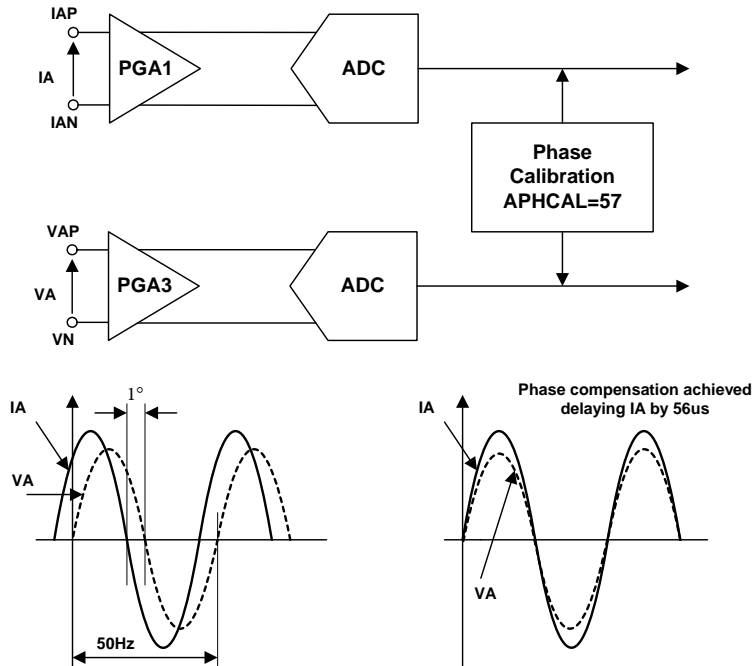

Figure 35. Phase Calibration on Voltage Channels
Figure 35 illustrates how the phase compensation is used to remove x=-1° phase lead in IA of the current channel from the external current transducer (equivalent of 55.5μs for 50Hz systems). To cancel the lead (1°) in the current channel of Phase A, a phase lead must be introduced into the corresponding voltage channel. Using expression (8), APHCAL is 57, rounded up from 56.8. The phase lead is achieved by introducing a time delay of 55.73 μs into the phase A current.